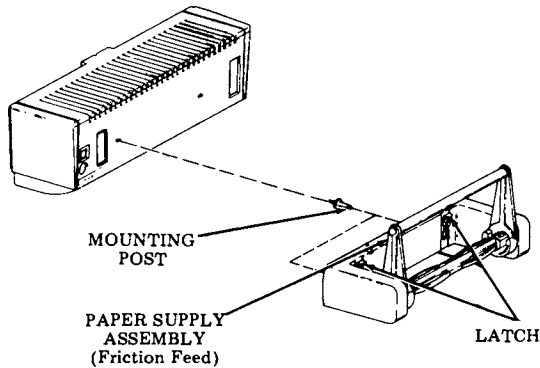

Fig. 19
- 6.10 Assemble the paper supply assembly as shown in Fig. 19. Pull the latches straight up and slide the paper supply assembly fully onto the mounting posts located at the rear of the bustle cover. Push down on the latches until they are secured over the mounting posts.